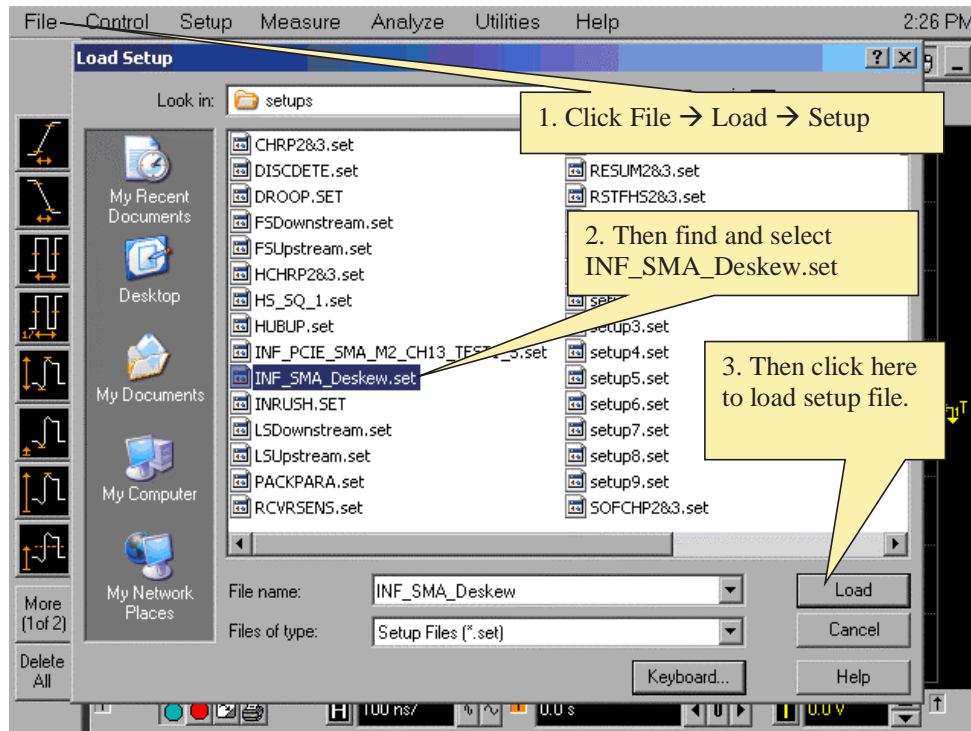

Figure 302 Load De-skew Setup.
- 2 Referring to Figure 302 below, perform the following steps: